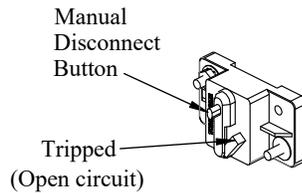

Figure 3: Tripped circuit breaker.
3. **Disconnect** the 4 GA. power cable from the positive side of the battery (Customer Connection Point on the driver seat pedestal on some Ford Transit vans) or manually **Trip** the circuit breaker (Figure 3).
5. **Disconnect** the 4 GA power cable from the positive side of the battery (Customer Connection Point on the driver seat pedestal on some Ford Transit vans) or manually **Trip** the circuit breaker (Figure 3).